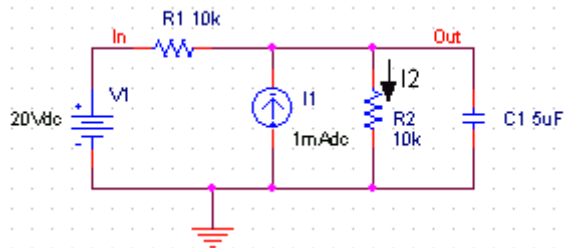

Figure 2: Circuit to be simulated (screen shot from OrCAD Capture).
- You can assign names to nets or nodes using the Place Net Alias command (PLACE/NET ALIAS menu). We will do this for the output node and input node. Name these Out and In, as shown in Figure 2.
As mentioned in the introduction, Spice allows you do to a DC bias, DC Sweep, Transient with Fourier analysis, AC analysis, Montecarlo/worst case sweep, Parameter sweep and Temperature sweep. We will first explain how to do the Bias and DC Sweep on the circuit of Figure 2.